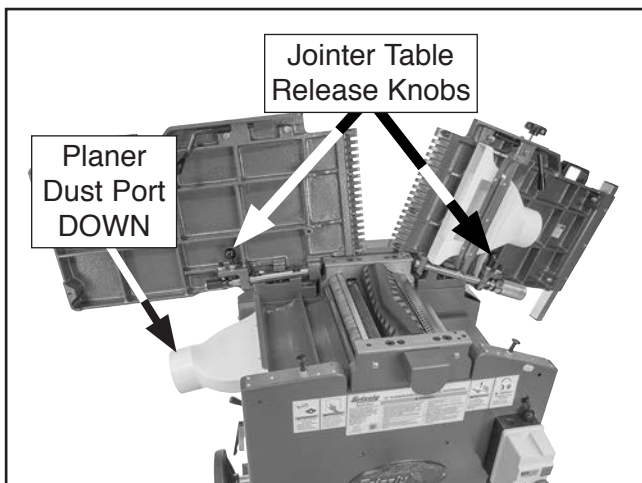

Figure 36. Planer dust port in DOWN position and location of jointer table release knobs.
3. Remove dust hose from planer dust port, then swing dust port counterclockwise below cutterhead (see **Figure 36**).
4. Pull infeed jointer table release knob, then pivot infeed table down and lock in position with infeed table lock lever (see **Figure 36**).